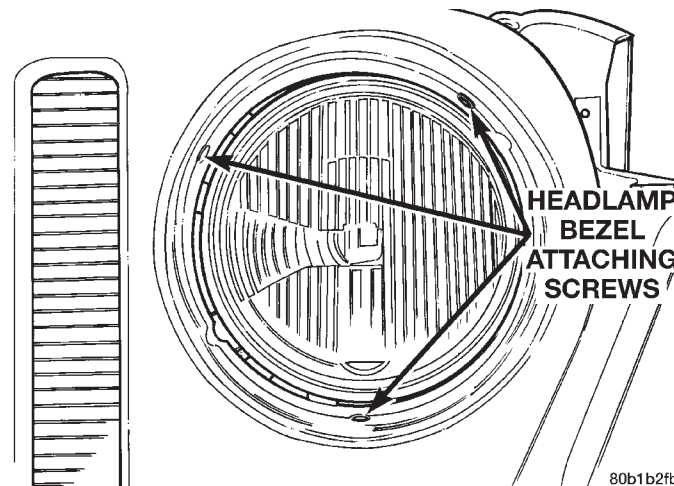
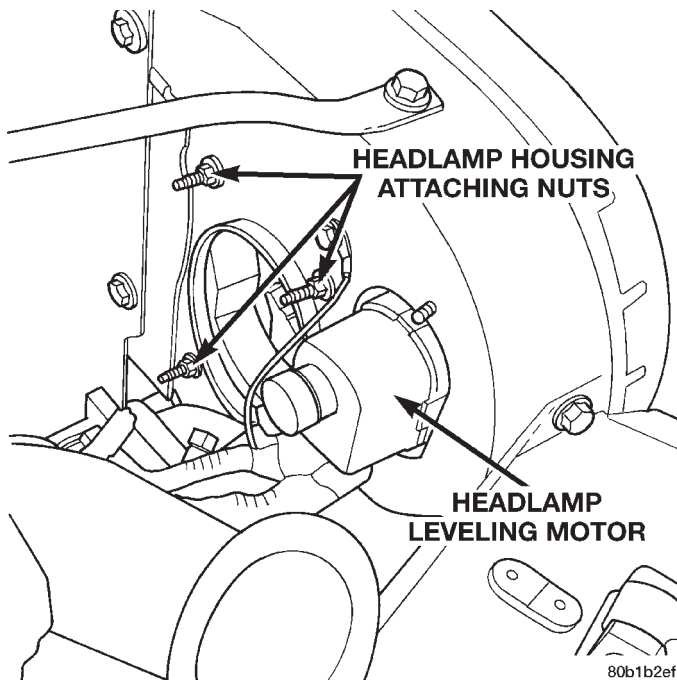

Fig. 3 Headlamp Bezel
Fig. 4 Headlamp Housing
- (1) Remove the headlamp bezel attaching screws and bezel (Fig. 3).
- (2) Disconnect the headlamp and headlamp leveling motor electrical connectors.
- (3) Remove the headlamp housing attaching screws (Fig. 4).
- (4) Rotate leveling motor one quarter turn counter-clockwise.